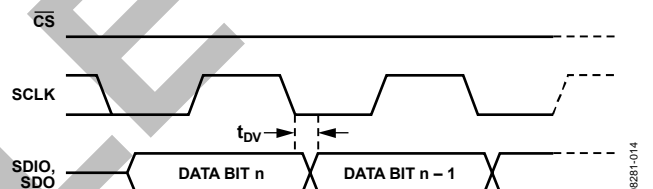

Figure 21. Timing Diagram for Serial Port Register Read
3. 8x interpolation: In this case, all three filters are used. Figure 21 shows the frequency response for 8x interpolation. The usable bandwidth is $0.1 \times F_{dac}$ or $0.8 \times F_{data}$.